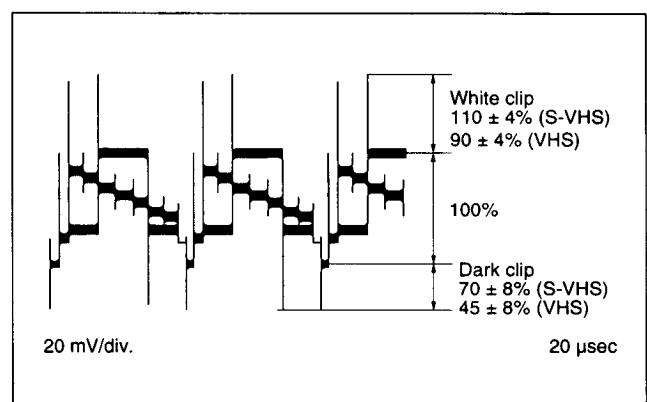

Fig.3-4-3 White/dark clip
- (1) Connect an oscilloscope to TP201.
- (2) Adjust **SET** or **SELECT** button for $110 \pm 4\%$ (S-VHS), $90 \pm 4\%$ (VHS) white clip and $70 \pm 8\%$ (S-VHS), $45 \pm 8\%$ (VHS) dark clip as shown in Fig.3-4-3.
- (3) Set normal VCR mode by pressing **MENU** button so adjustment data is memorized.